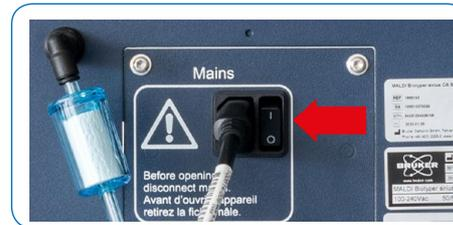

Figure 4.15 Power switch on the MBT sirius one/sirius
- Toggle the power switch at the back to the “off” position (O) (see Figure 4.15)
- Toggle the power switch at the back to the “on” position (I)